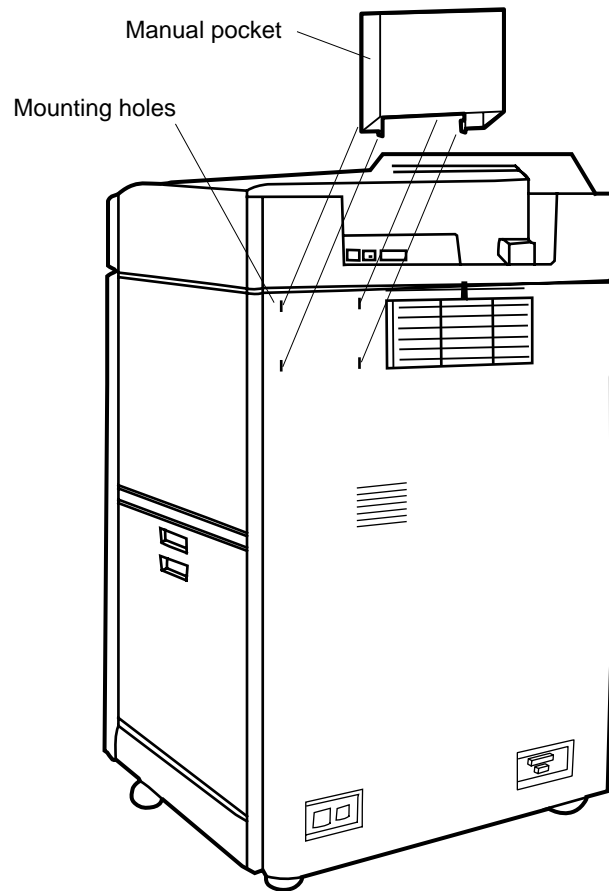

Figure A-12 Removing the Manual Pocket
1. Remove the manual pocket from the rear of the printer and package. See Figure A-12.